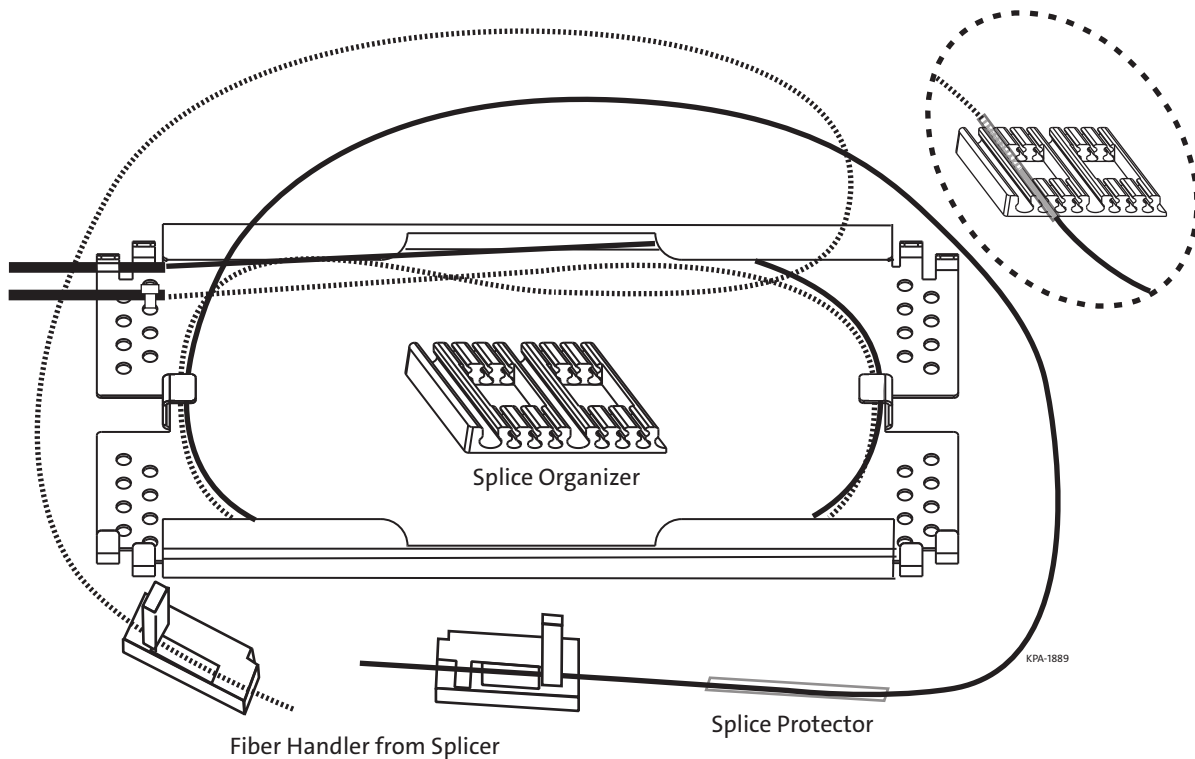

Figure 14
Step 1: Place heat-shrink splice protector over fiber (Figure 14).
Step 4: Route the spliced fiber inside the tray and secure the protected splice in the organizer as shown in the inset in Figure 14. You may stack up to two protected splices in each slot in the organizer.